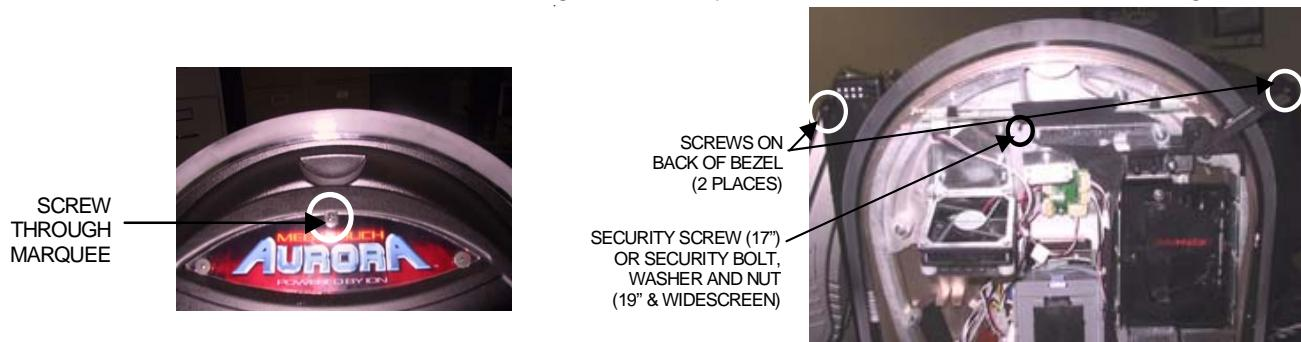

FIGURE 3 - SCREWS ON FRONT AND BACK OF BEZEL
5. Place something in front of the game to brace the bezel once the strain relief cord is undone, then remove the screw at the center of the marquee bezel and the 2 screws on the back of the bezel. For 17" games, remove the security screw inside the CPU section; for 19" and Widescreen games, remove the nut and washer securing the security bolt inside the CPU section. See Figure 3.